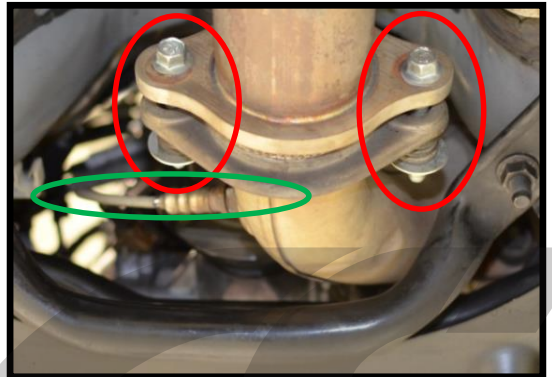

Figure 6d
- d) Remove the two 17mm (14mm for OEM) bolts between the downpipe and the catback exhaust (CBE), **circled in red** in **Figure 6d**. (If applicable) Remove the 17mm (14mm for OEM) bolts between the race pipe and upper downpipe.
- f) Remove the two 17mm (14mm for OEM) bolts between the downpipe, **circled in red** in **Figure 6d**.
- f) Remove the lower oxygen sensor. **Green circle** in **Figure 6d**.
- g) Remove the two 14mm bolts attaching the racepipe to the cat back exhaust. **Red circles** in **Figure 6d**.